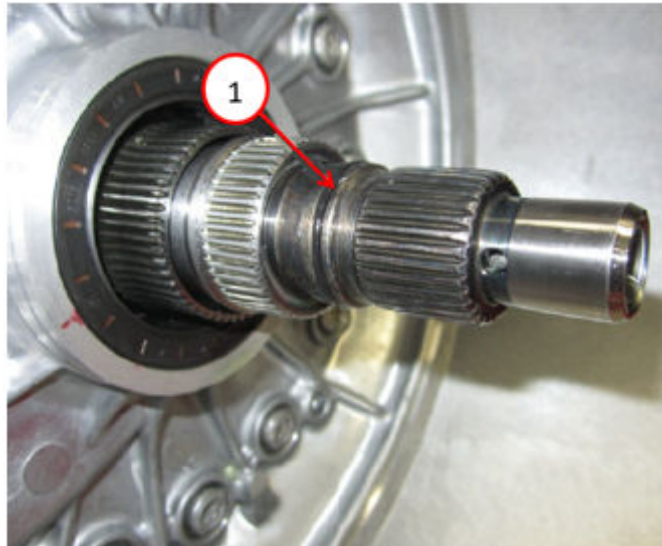

Fig. 37
59. Install the new input shaft O-ring Fig. 37.